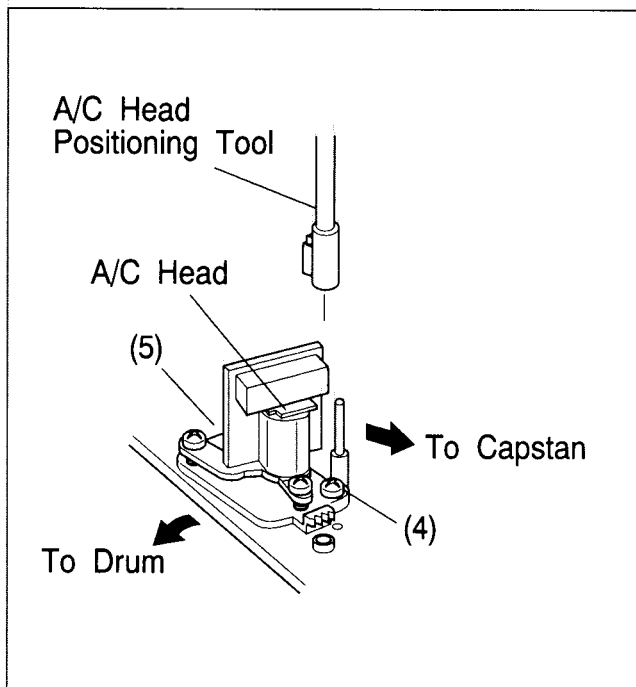

Fig. 2-7-6
- (1) Connect the oscilloscope to TP106(PB FM/COL) of the main board assembly and to TP111(D.FF) of the main board assembly for external sync connection.
- (2) Play the alignment tape MHP and observe the FM waveforms.
- (3) Press the "AUTO" buttons of the remote controller during playback. (This also brings tracking to the center.)
- (4) Loosen screws (4) and (5) so that the A/C head position bit (PTU94010) is set as indicated in Fig.2-7-6.
- (5) Turn the A/C head position and first move the audio control head fully up to the capstan head. Then gradually return the audio control head toward the drum and stop it where the FM waveform reaches its maximum for the first time. Then tighten screw (4) temporarily.
- (6) Then play the alignment tape MHP-L.
- (7) Press the "AUTO" buttons of the remote controller during playback. (This also brings the tracking to the center.)
- (8) Perform the tracking operation and make sure that the FM waveform is at its maximum.
- (9) If it is not at maximum, loosen the temporarily tightened screw (4) and turn the A/C head position bit to bring the audio control head to a position, around where the waveform reaches its maximum for the first time. Then tighten screws (4) and (5).